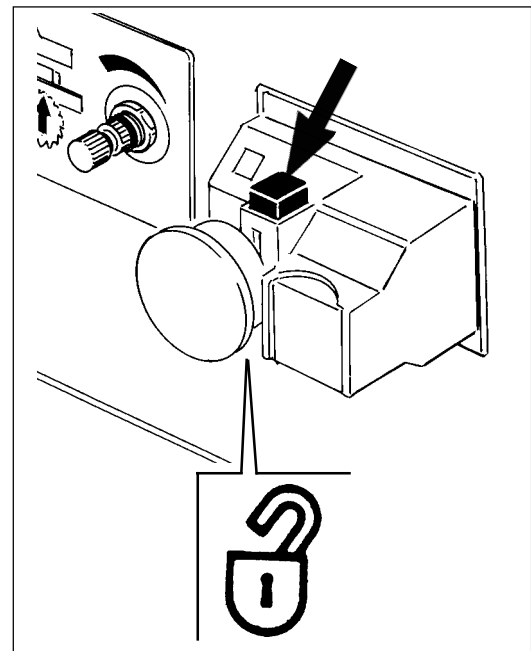

Fig. 5-2 Locking device
- press the rectangular RED button (fig. 5-2) with a finger to extend the tang below